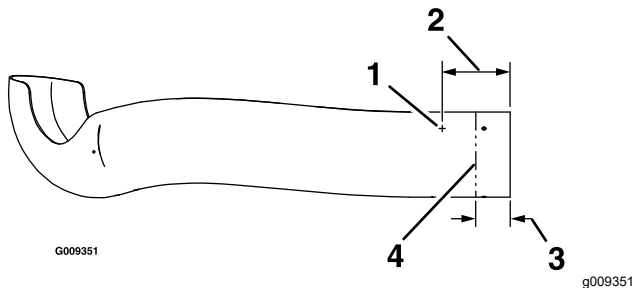

Figure 16
- A. Locate the 3 holes in the upper tube. Measure 16.5 cm (6-1/2 inches) up from the end of the tube and mark the location in all 3 areas (Figure 16).
- B. Drill 3 holes (4.8 mm or 3/16 inch) as shown in Figure 16.
- C. Measure at 3 locations—76 to 89 mm (3 to 3-1/2 inches) from the end of the tube, create the marks, and apply masking tape around the tube as a guide (Figure 16).